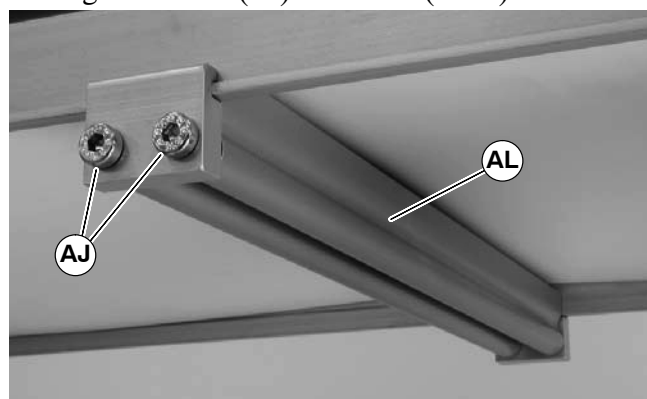

Figure 15
3. Install roller assembly as shown (AL of Figure 15). Tighten screws (AJ) to 60 in-lb (7 Nm).